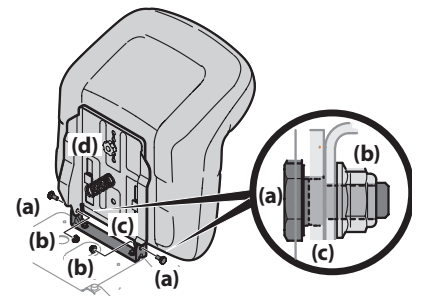

Figure 7
5. Position the seat assembly over the seat mounting bracket, aligning the holes provided. See Figure 7.
6. Install the two shoulder bolts (a) and lock nuts (b) removed from the seat mounting bracket (c) in Step 1. See Figure 7.
7. To adjust the position of the seat, loosen the adjustment knob (d) on the bottom of the seat. Slide the seat forward or backward as desired. Securely retighten the adjustment knob. Refer to (d) in Figure 7.